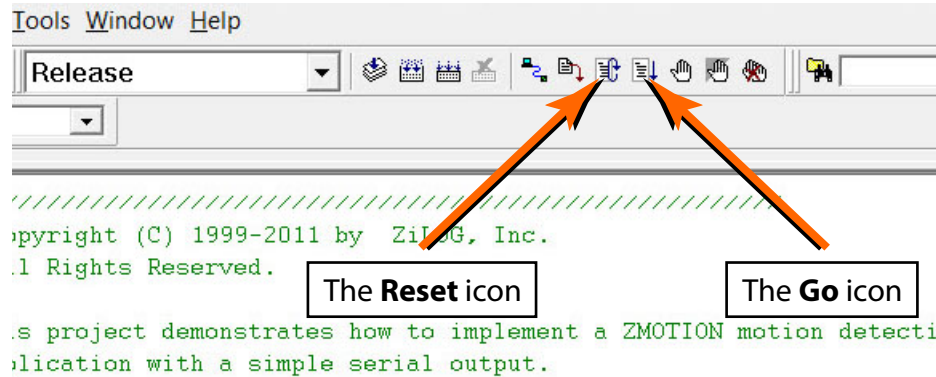

Figure 6. The Location of the Rest and Go Icons
- Apply power to the Development Board by plugging in the USB cable and setting SW1 to the ON position. Next, click the **Reset** icon in ZDSII. Figure 6 indicates the location of both the **Reset** and **Go** icons in the ZDSII menu bar.